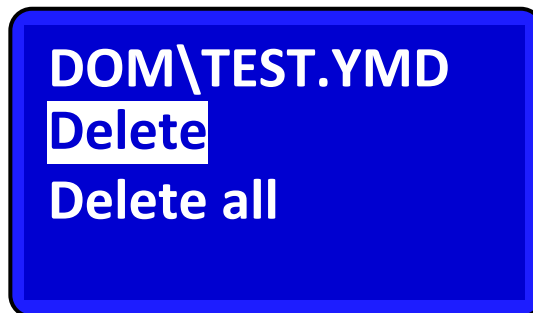

Fig.3-47 File Delete Interface
- ◆ Press “DEL” to Enter file delete menu, as shown in Fig.3-47;
The file delete interface is shown in Fig.3-47.